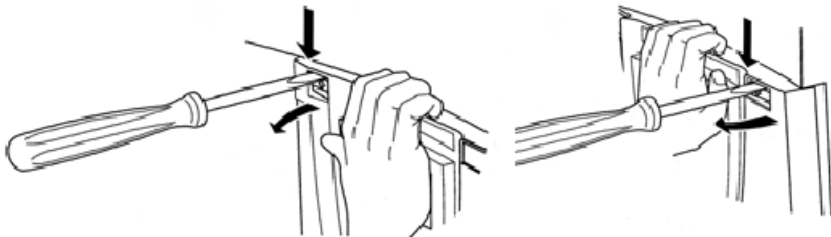
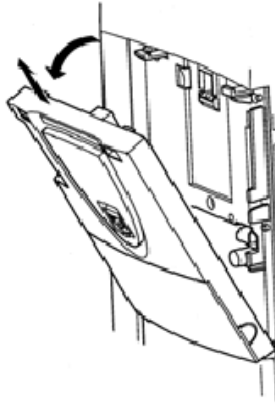

Figure 1: Releasing the Drive's Front Cover
Figure 2: Removing the Drive's Front Cover
3. Remove the drive's display panel and front cover by inserting a flat-blade screwdriver into each of the two mounting tab access openings at the top of the front cover and depressing each of the mounting tabs (Figure 1). Rotate the top of the front cover outward and remove the cover (Figure 2).